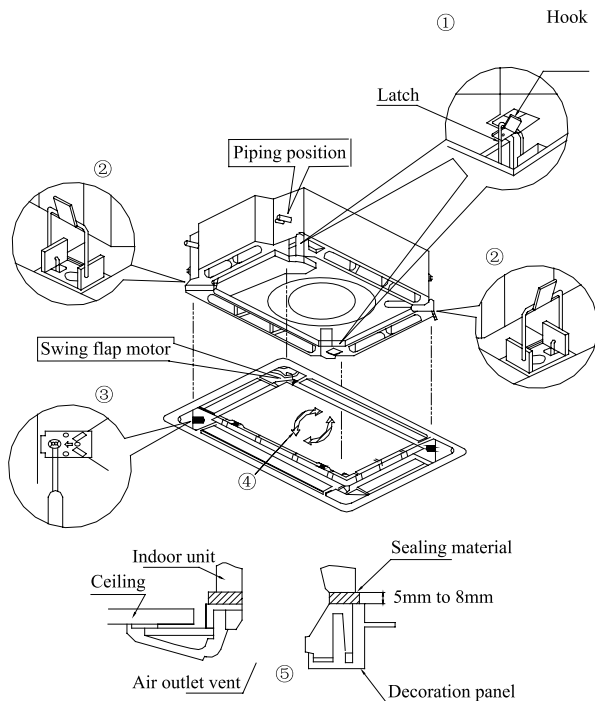

Fig.13
(1). Install the grille onto the indoor unit body by matching the position of the swing flap motor of the panel to the piping position of the grille as shown in Fig. 13.
- ① . Install the cassette grille temporarily using the two hooks and latches provided at opposing corners.
- ② . Hang the remaining two latches to the hooks on the sides of the indoor unit. Ensure there are no wires caught between the cassette chassis and the grille assembly.
- ③ . Partially tighten the four screws in the corners to secure panel to chassis.
- ④ . Tighten the screws incrementally so that the grille rises in a level manner until the grille meets the finished ceiling.
- ⑤ . Once the grille is in place and tightened, the sealing gasket of the grille should be compressed to approximately 1/4 to 1/8 in. Try to keep the gasket thickness as uniform as possible for best performance.